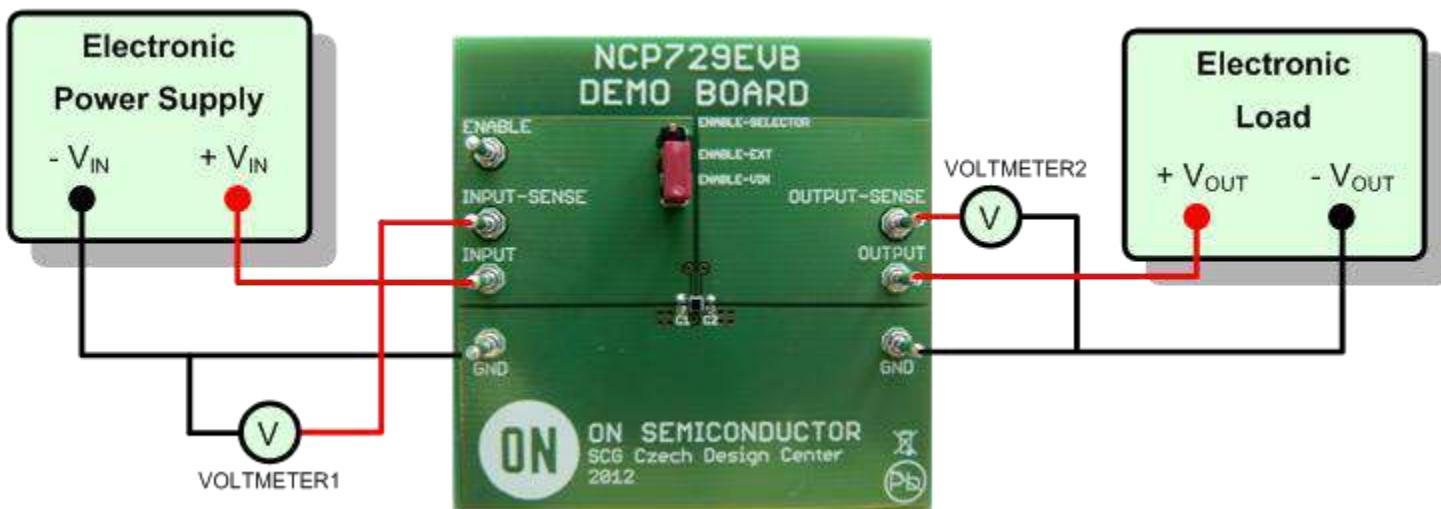

Figure 1. Test setup for the measurements of basic regulation characteristics
1. Connect the test setup as shown on Figure 1